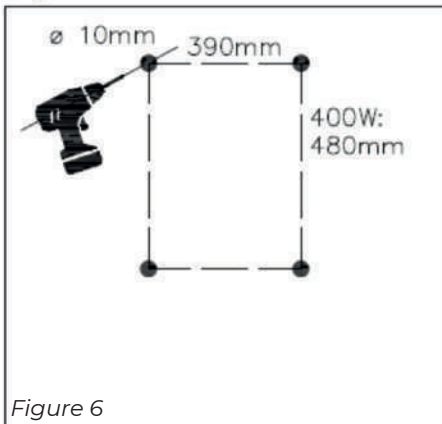

Figure 6
distance between the holes (Figure 6).
**5.** Drill two bottom holes for the wall plugs with 390 mm horizontal distance between the holes (Figure 6). The vertical distance between the bottom and top holes is approximately 480mm